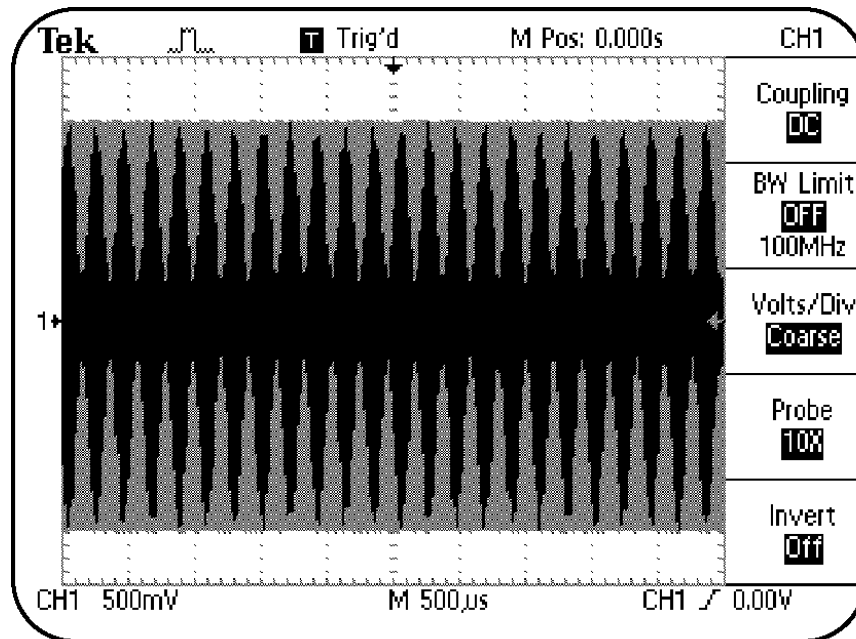

Figure 5.5: Complex AM signal without holdoff
Figure 5.5 shows the updating overlay of the amplitude modulation region of an amplitude modulated (AM) signal.